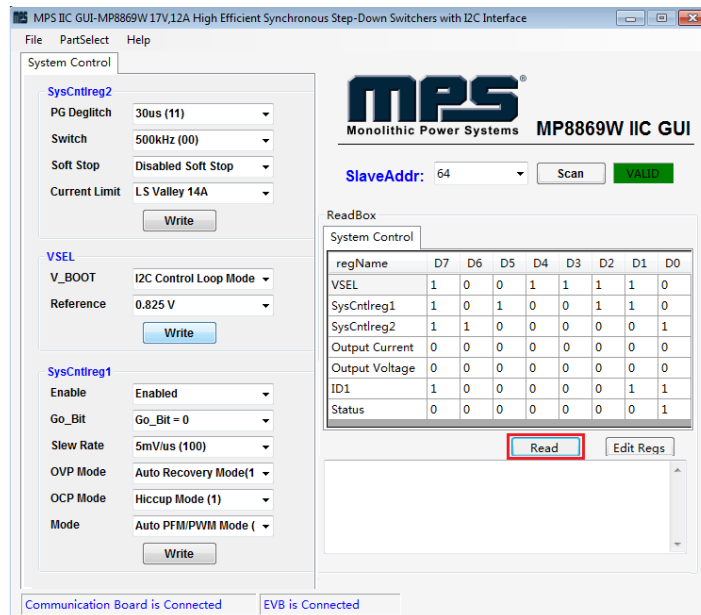

Figure 9: Values from I2C Shown in Table
- Click the “Part Select” button to select the MP8869W (see Figure 7). The default GUI window is for the MP8861. The Register Control menu will appear on the left side. I2C register values will be read and displayed on the right side after clicking the “Read” button (see Figure 9).